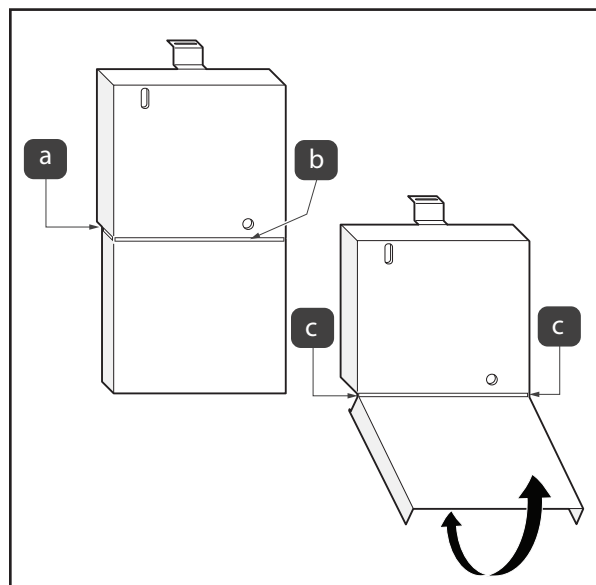

Figure 8. Reinstall Dead Front
7. If bottom half of dead panel needs to be removed use some diagonal pliers to cut the two rear tabs, see Figure 8 (a).
8. Cut dead panel label across dead panel opening, see Figure 8 (b).
9. Swing dead panel bottom back and forth until front tabs break off, see Figure 8 (c).